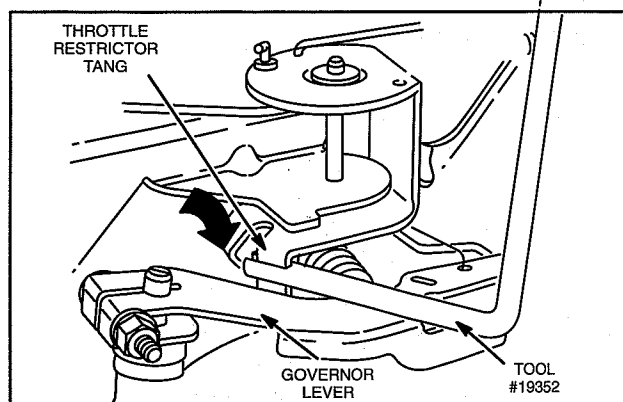

Fig. 136 – Adjust Throttle Restrictor
10. With equipment control lever in SLOW position and engine running at governed idle RPM, use tang bender, Tool #19352, and bend throttle restrictor tang so that tang just contacts governor lever, Fig. 136.